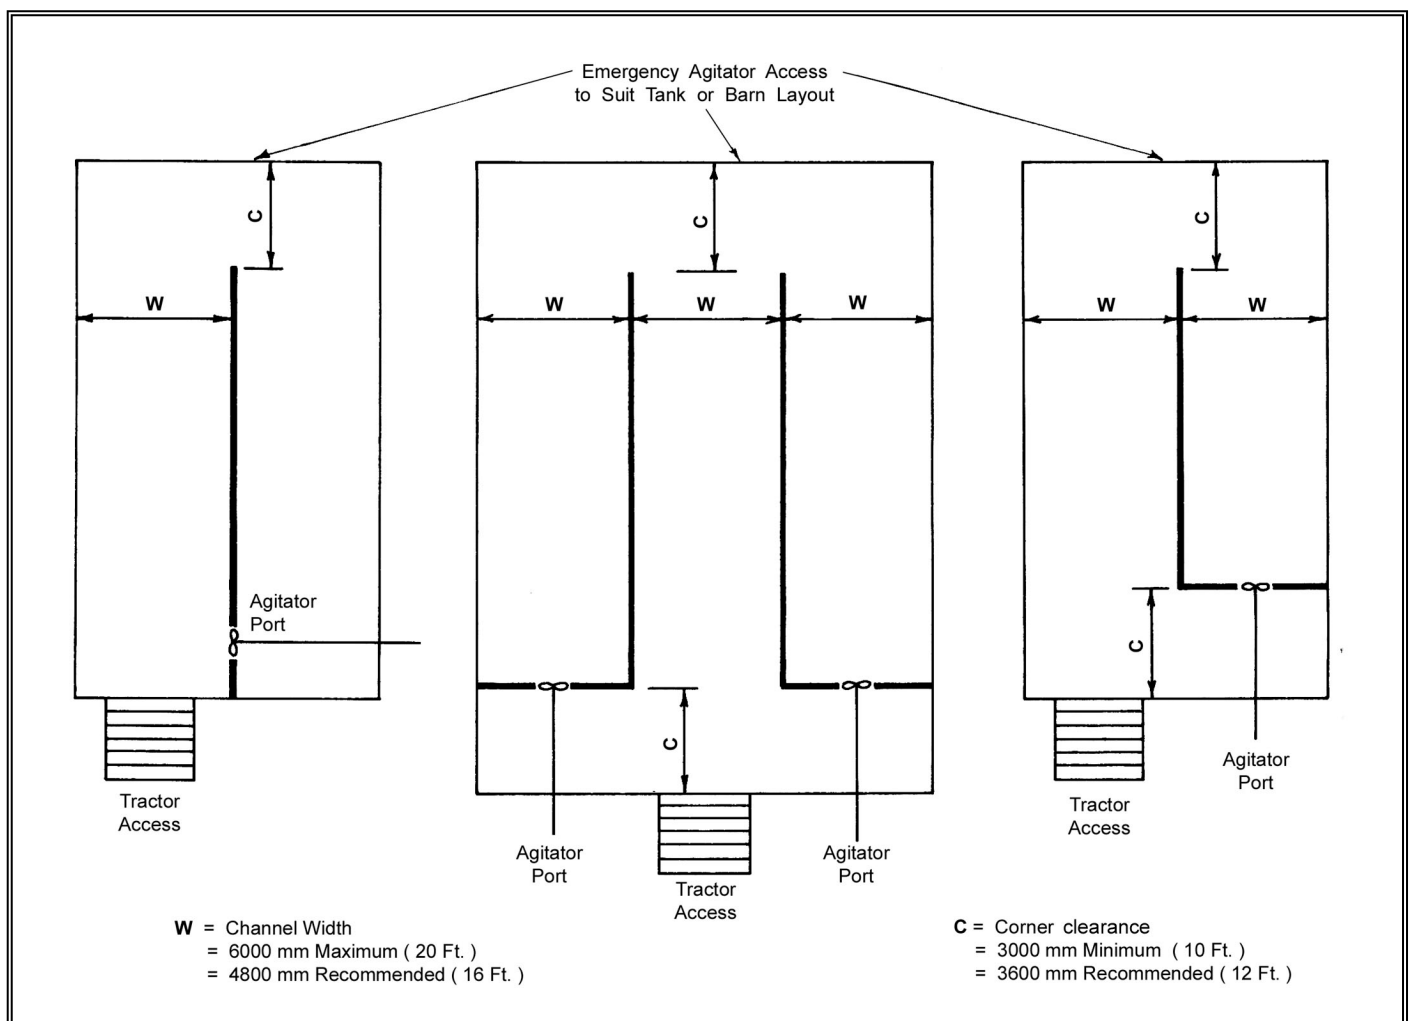

Figure 1
There are two basic types of circulatory agitation systems: (1) storages located under cattle and equipment traffic areas, such as is typical in slotted floor dairy housing or suspended floor systems, and (2) tanks or pits located outside the barn. Figure 1 illustrates a variety of racetrack configurations. Wider barns will duplicate these arrangements or may incorporate variations of these on each side of the drive through feed alley.